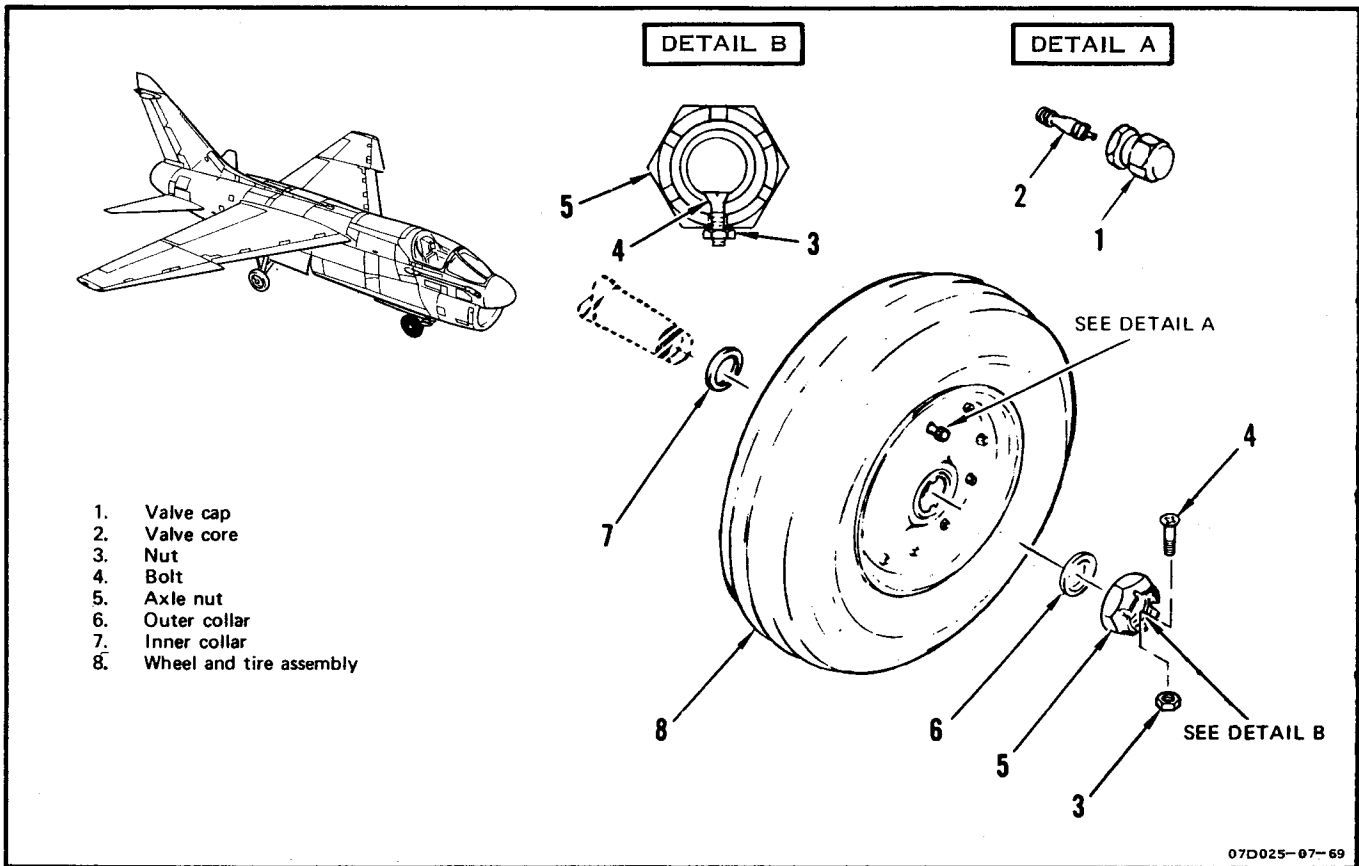

Figure 1-27. Nose Gear Wheel and Tire Removal and Installation
d. Remove T-handle filler adapter and remove valve core (2).
**1-91. REMOVAL. (See figure 1-27.)**
1-92. INSTALLATION. (See figure 1-27.)